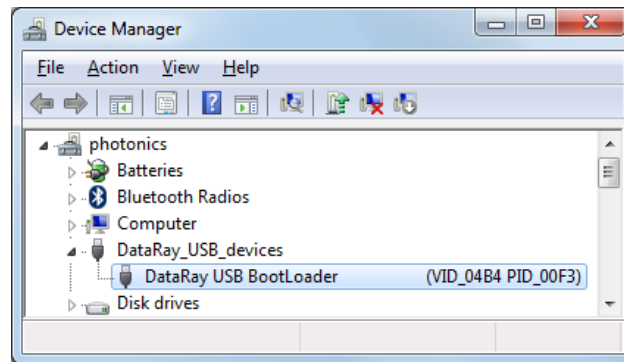

Fig. 3.1: Device Manager and Installation.
5. What should it look like in Device Manager? In the **Device Manager** click on the + sign next to **DataRay Inc. USB3.0 /2.0 Devices** and double-click the driver (see Fig. 3.1). If necessary select **Drivers** and then click on **Update Drivers** to access the **Update Device Driver Wizard** again.